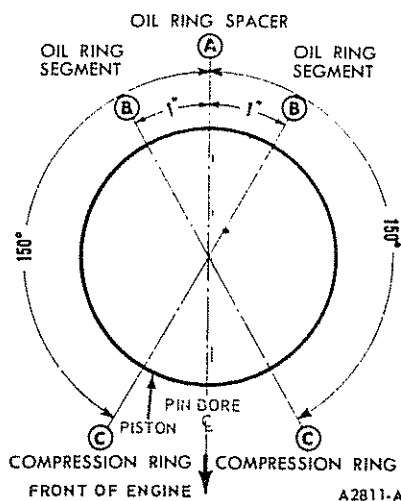

FIG. 63 Piston Ring Spacing
3. Make sure that ring gaps are properly spaced around circumference of piston (Figure 63).